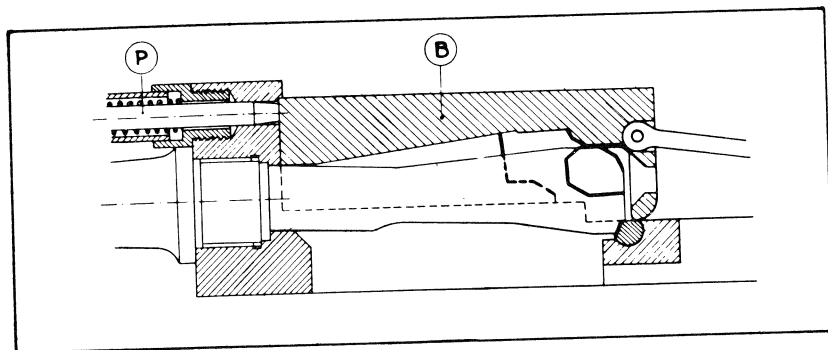

Fig. 5
- The piston (P) in its rearward movement strikes the slide (B) (fig. 5) and drives it backwards.